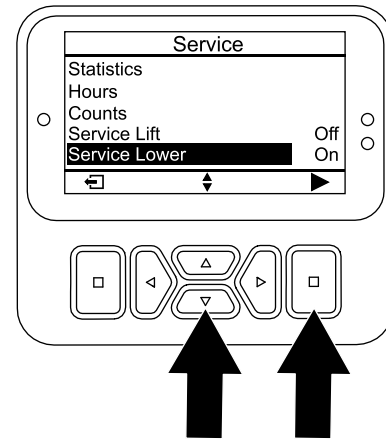

Figure 167
6. Press the down button until the SERVICE LOWER option is selected, then press the select button (Figure 167).